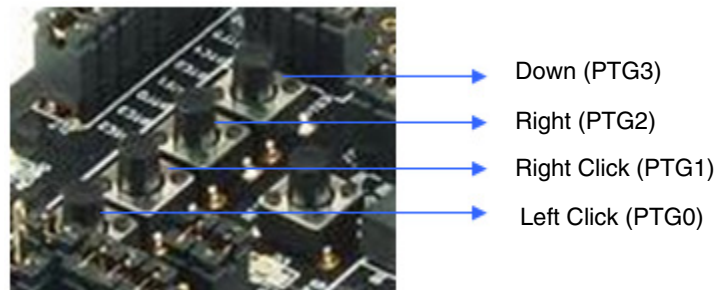

Figure B-4. HID device push buttons
3. After the HID device is installed, it can be moved on the host computer screen by pressing the push buttons. Figure B-4 shows the function of these buttons.